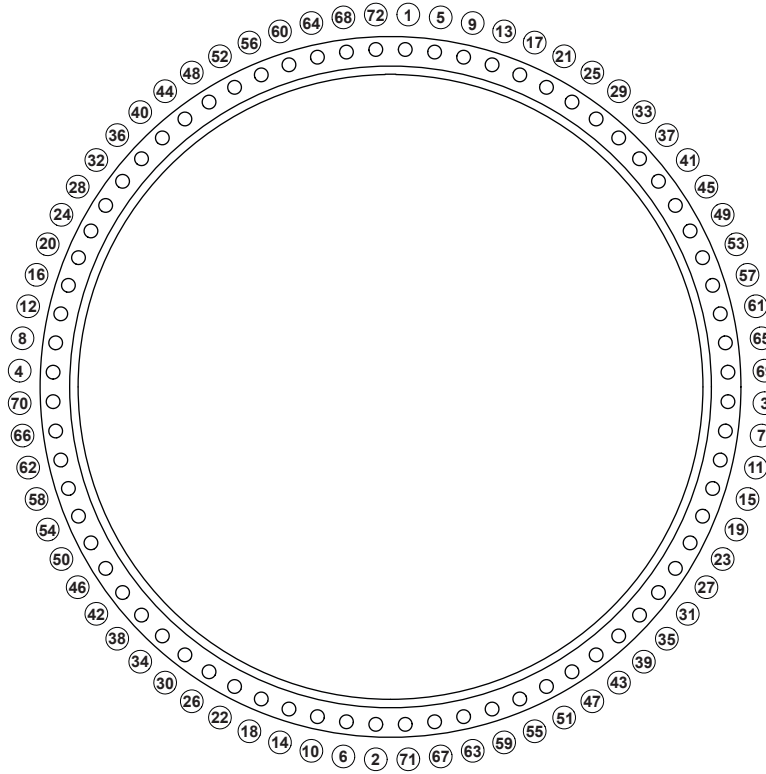

Figure 5. Flange Pattern Tightening Sequence
4. Tighten the nuts to the torque values shown in Table 1 following the designated sequence, repeating the sequence as shown. Flange pattern tightening sequences are shown in Figure 5.